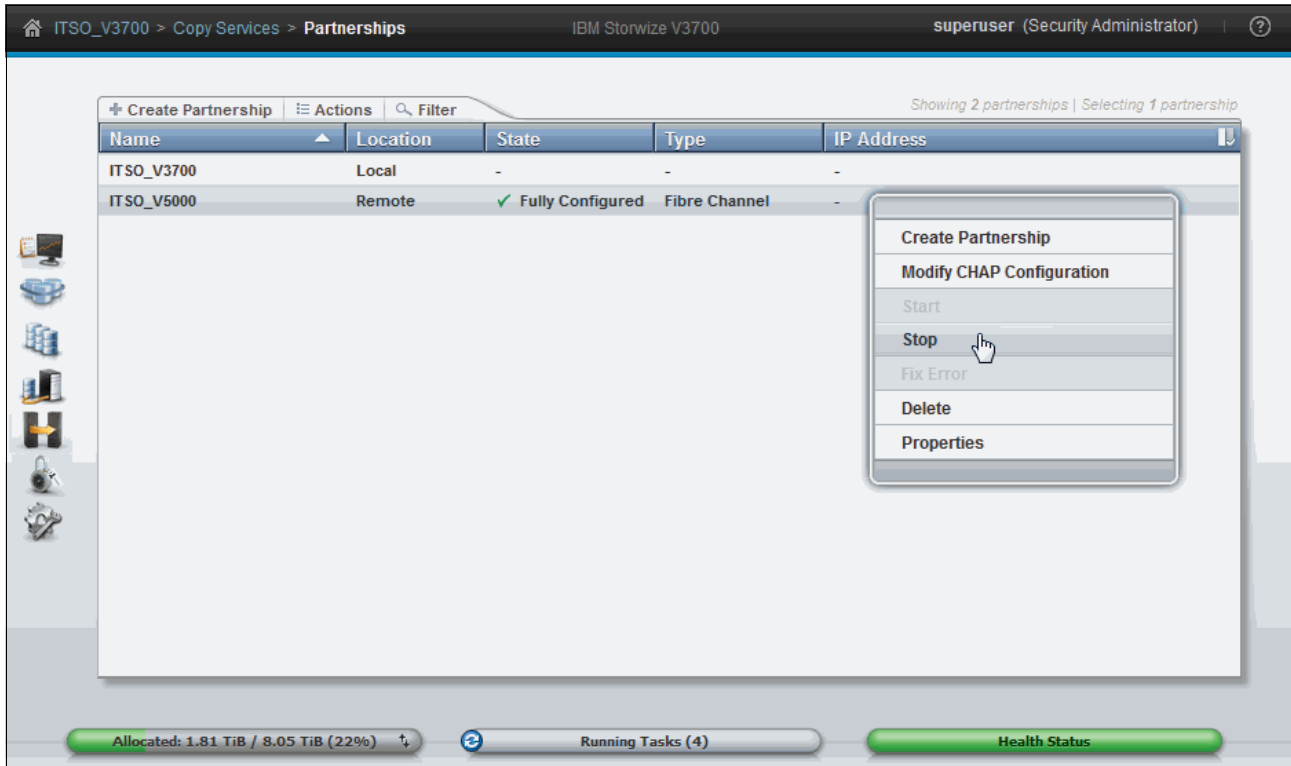

Figure 10-93 Stopping a partnership
1. Click **Stop** from the **Actions** menu, as shown in Figure 10-93 on page 541. Stopping the partnership disconnects the relationship that uses it.
You can delete a partnership by selecting **Delete** from the **Actions** menu, as shown in Figure 10-93 on page 541.